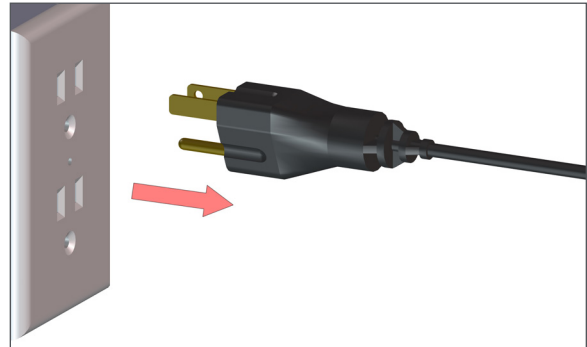

Figure 89 - Step 1 Unplug power
1. Disconnect the device from any power source (Figure 89).